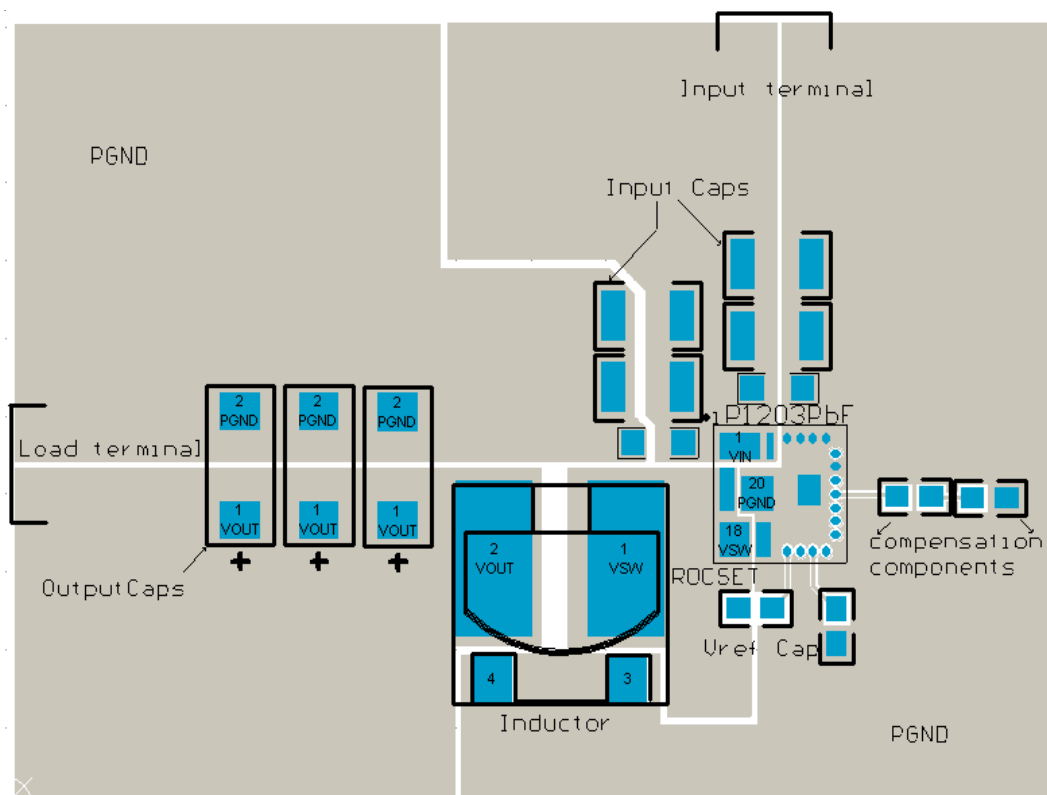

Fig. 23: iP1203PbF Suggested Layout
1. Follow the layout scheme presented in Fig. 23. Make sure that the output inductor L is placed as close to iP1203PbF as possible to prevent noise propagation that can be caused by switching of power at the switching node V_{sw}, to sensitive circuits.